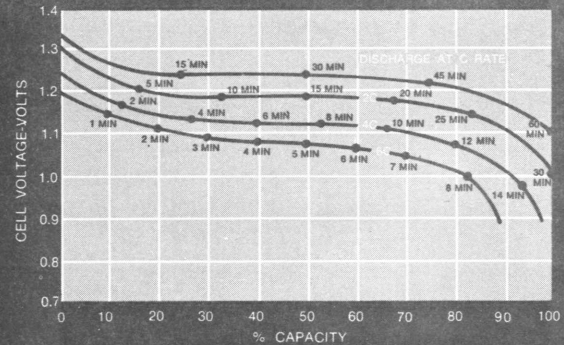

Fig. 2 Typical discharge characteristics of sealed cylindrical cells at 20°C.
The nominal capacity of such a battery is about 22 AH; however, this assumes an end point when the individual cell voltage is 1 V. In our application we have defined the end point as 24 volts for the battery pack which occurs when the cell voltage is 1.2 volts. Reference to Figure 2 shows that this results in an apparent loss of  $\approx 20\%$  of the AH capacity.
When charging at the high rate, there is a tendency for the batteries to over-heat when the end of charge is approached. When this occurs, a thermostat will reduce the charging current to the lower value. If time permits, charge at high rate for about 10 hours and then trickle charge for at least 4 days. This should enable the batteries to take the maximum charge. The capacity of the batteries is dependent on charging temperature, i. e. , if charged at 40 °C, only 60 percent of capacity will be available on discharge. See Figure 2 showing GE data sheet.
**VOLTAGE** — During discharge at the one-hour or "C" rate, the average voltage of a nickel-cadmium cell is approximately 1.2 volts. The plateau voltage level will vary with discharge rate as shown in Figure 2, but is nearly flat at all discharge rates until the cell approaches complete discharge.